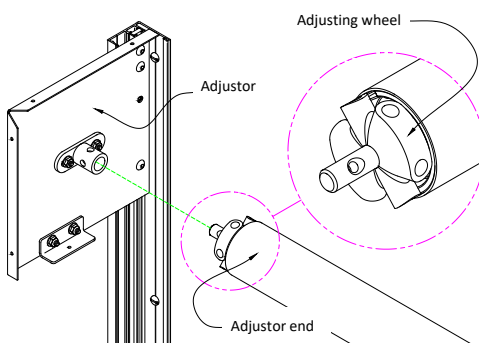

Figure 4
Step 5: Install shaft. Shaft installation will vary slightly based on operation of unit. Shaft installation for each type of operation will be described below. Common to all shafts, regardless of unit operation, is the adjuster. Each shaft has a circular cast iron adjusting wheel with six pockets for use when charging the springs; this end of the shaft will be referred to as the adjuster end of the shaft; refer to Figure 4. If unit is